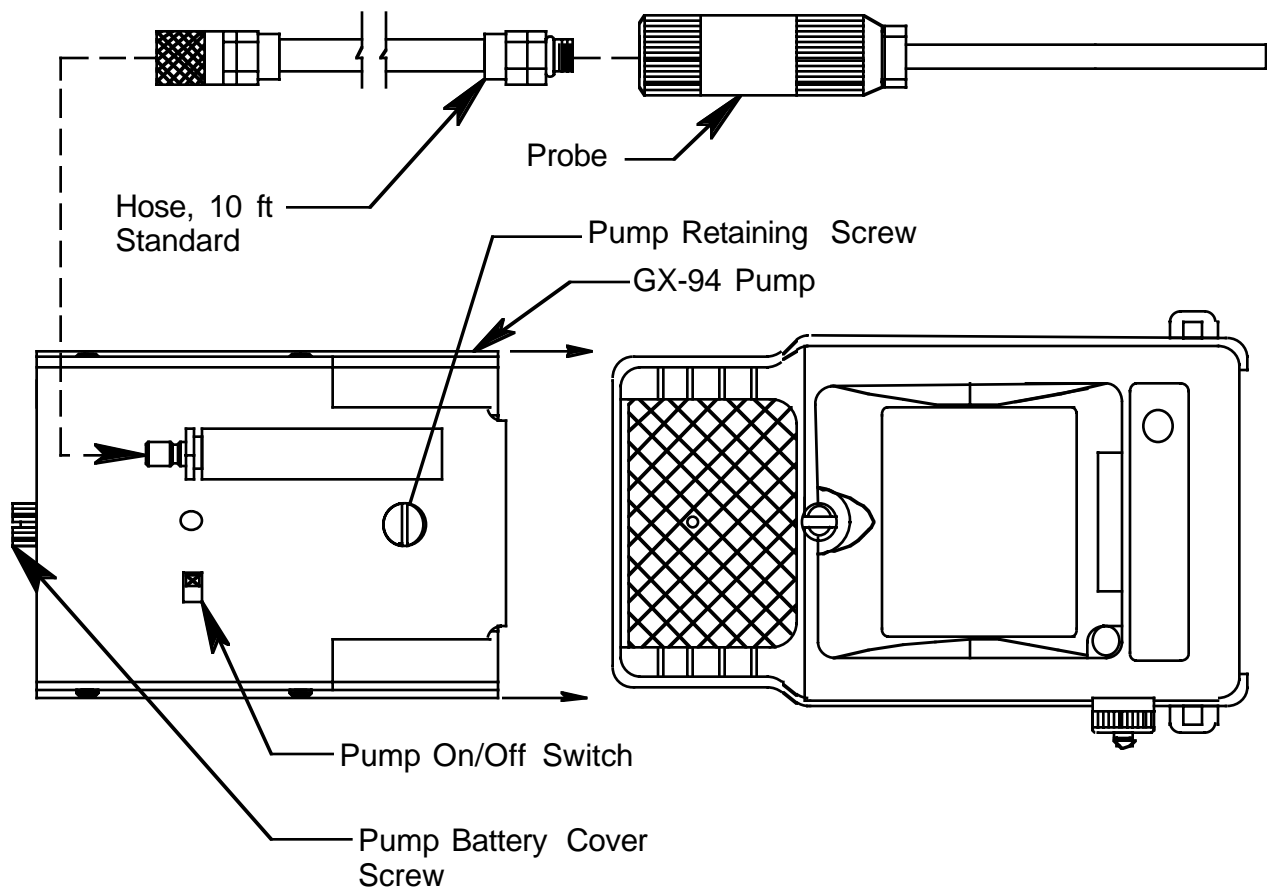

Figure 6: Attaching the GX-94 Pump
1. Slide the pump onto the sensor end of the GX-94, as shown in Figure 6.